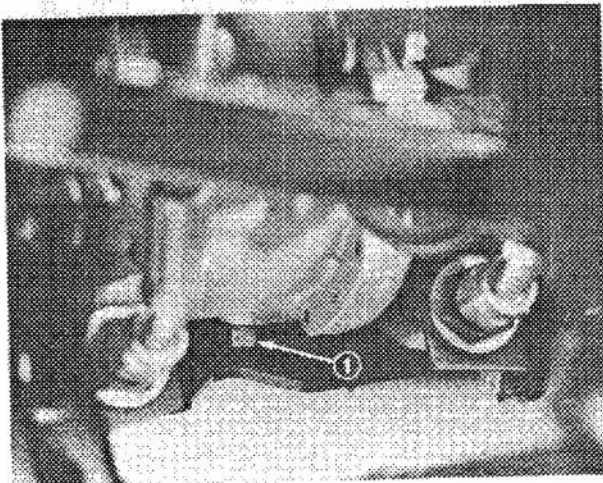

Figure 52
CHANGING FRONT AXLE LUBRICANT (Fig. 52)
2. Clean area around the drain plug (Fig. 52).